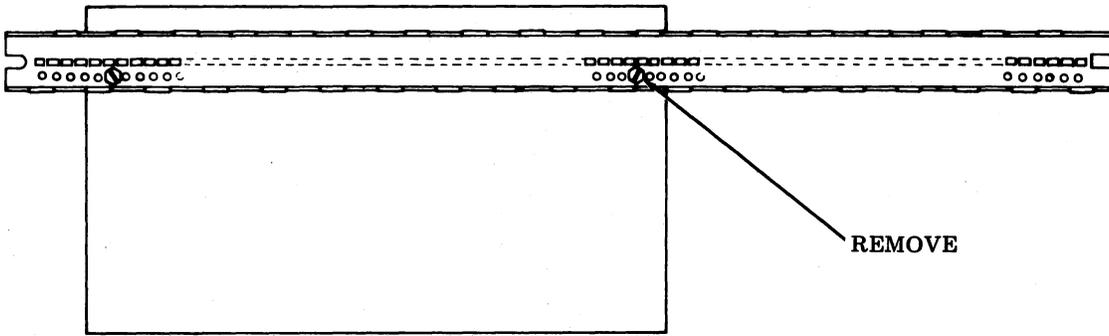

Fig. 23—Channel
- (d) Remove the screw securing the right rear side of the circuit card to the channel (Fig. 23).